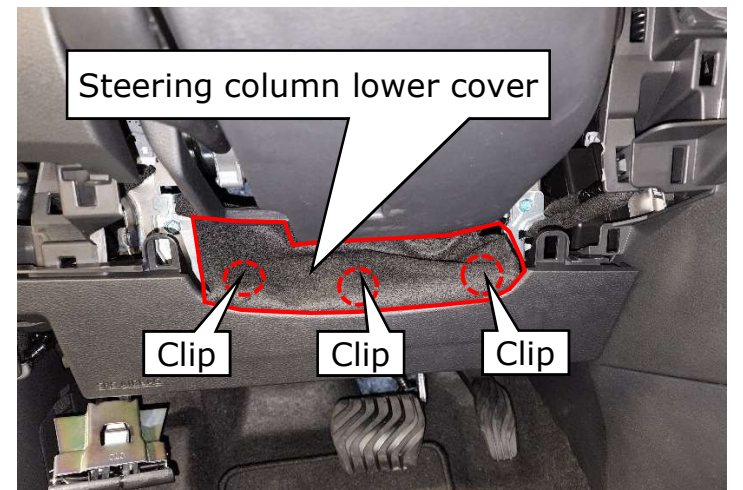

Figure 7
6. Using a suitable tool, disengage the (3) three steering column lower cover clips. (Figure 7)